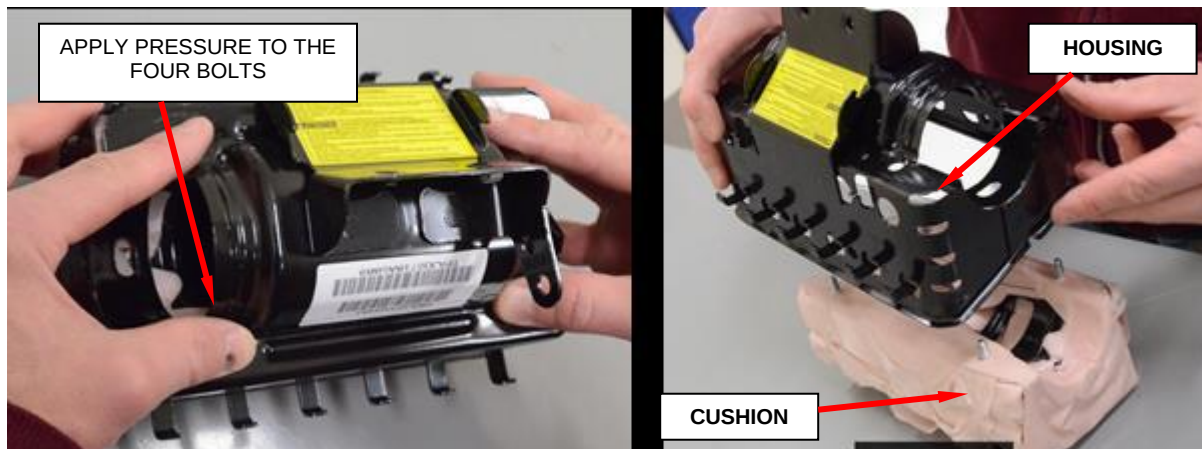

Figure 149 – Remove Airbag Cushion from Housing
35. Using a trim stick or another suitable wide flat bladed tool, gently pry the forward and side edges of the passenger airbag door away from the top of the instrument panel far enough to disengage the snap features on the door from the receptacles in the instrument panel top pad (Figure 149).